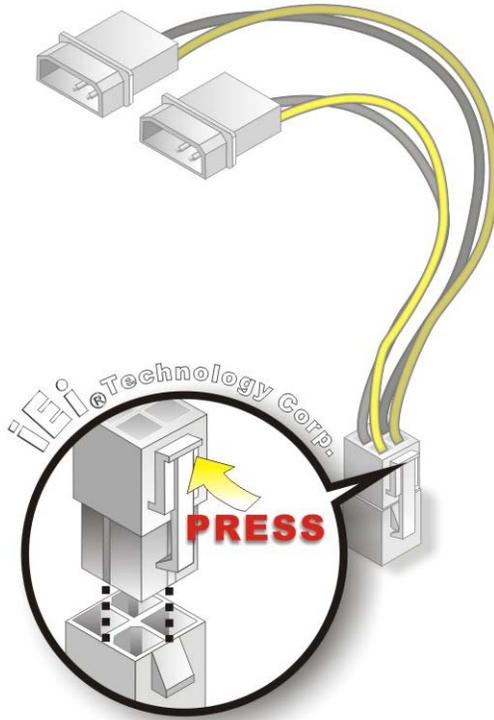

Figure 4-12: Power Cable to Motherboard Connection
Step 2: **Connect the Power Cable to the Motherboard.** Connect the 4-pin (2x2) Molex type power cable connector to the AT/ATX power connector on the motherboard. See Figure 4-12.